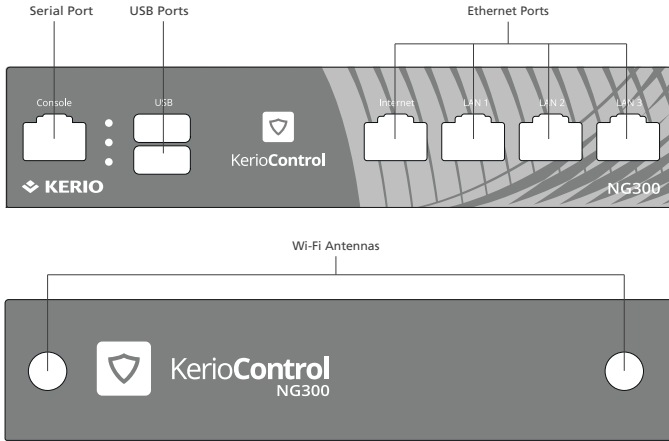

Figure 2 Kerio Control NG300W (front + back)
- Kerio Control NG300W — Sub-1U table mountable appliance — see figure 2.